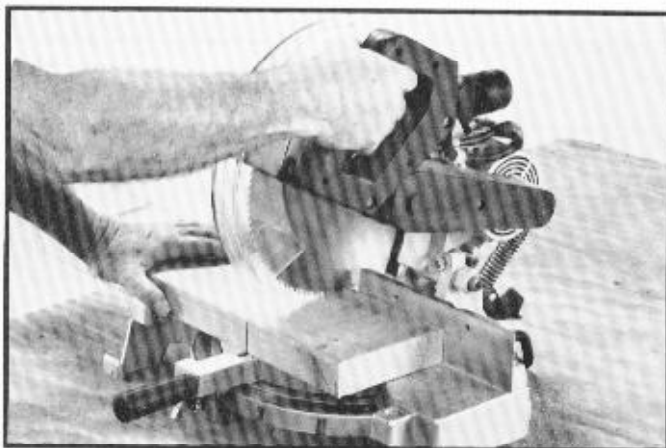

Fig. 38
3. Cutting a standard 4 x 4 is easily accomplished with your miter box in one pass, as shown in Fig. 38.